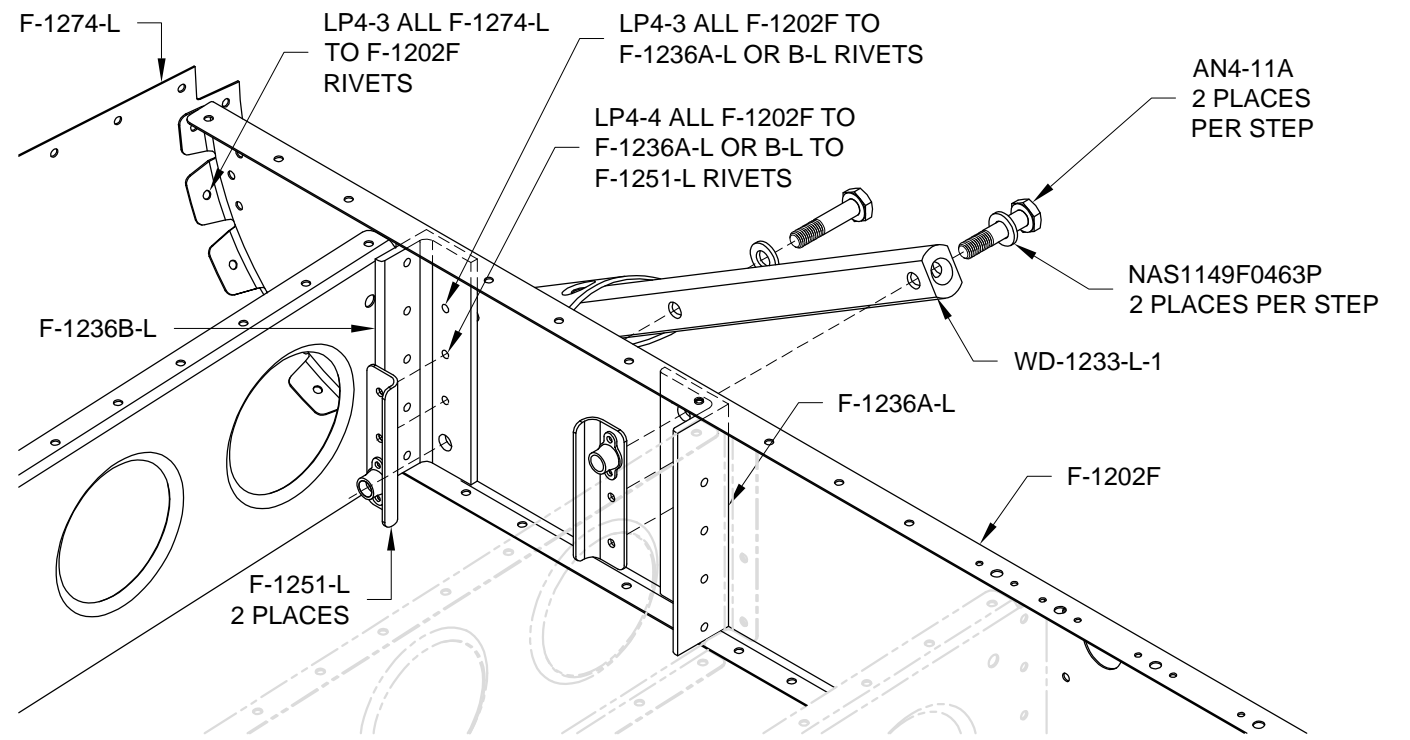

FIGURE 4: RIVETING THE STEP ATTACH ANGLES AND FUSELAGE CORNER SKINS
Step 8: Rivet the F-1251-L Nutplate Brackets and the F-1236A-L & B-L Step Attach Angles to the F-1202F Bulkhead using the rivets called out in Figure 4. Repeat for the right side of the fuselage.
Step 9: Rivet the F-1202F Bulkhead to the F-1274-L Fuselage Corner Skin using the rivets called out in Figure 4. DO NOT rivet the bulkhead to the F-1276 Bottom Skin. Repeat for the right side of the fuselage.
Step 10: The WD-1233-L-1 & -R-1 Steps can be installed at any time during the building process using the hardware called out in Figure 4.